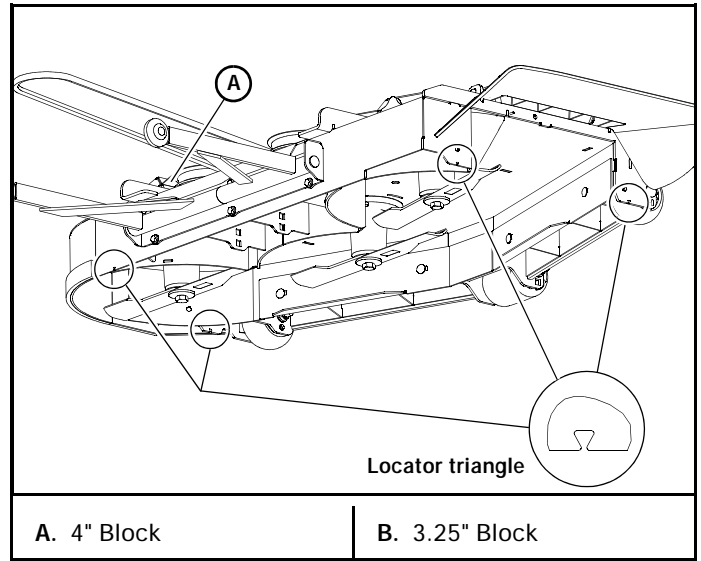

Figure 6-1
3. **Side Discharge Deck (Figure 6-1)** – Place 3" (76.2mm) high deck support blocks (two stacked 2" x 4" blocks can be used to create a 3" (76.2mm) high support at the four corners of the deck marked with the locator triangle as shown.